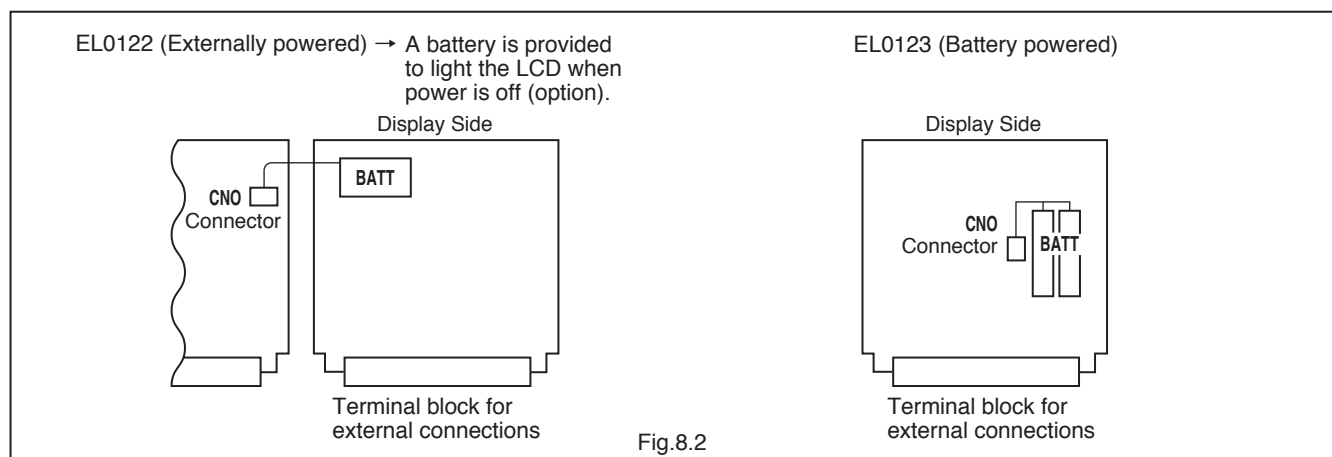

Fig.8.2
- ② Battery location is shown in Fig. 8.2.
- ③ Uncouple the bead bands securing the battery pack in place, uncouple the connector installed on the substrate, and replace it with a new battery pack.